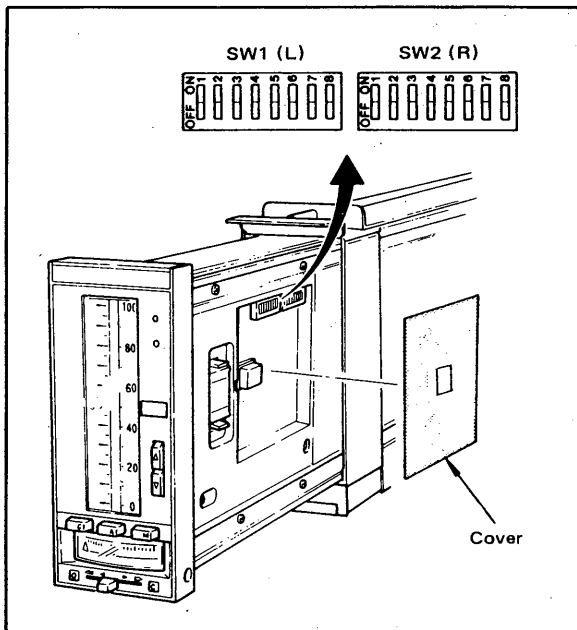

Figure 6-6. Eight-Position DIP Switches.
- (1) Remove the cover as shown in Figure 6-6.
- (2) Two 8-position DIP switches are located inside the cover (L and R). (See Figure 6-6.)